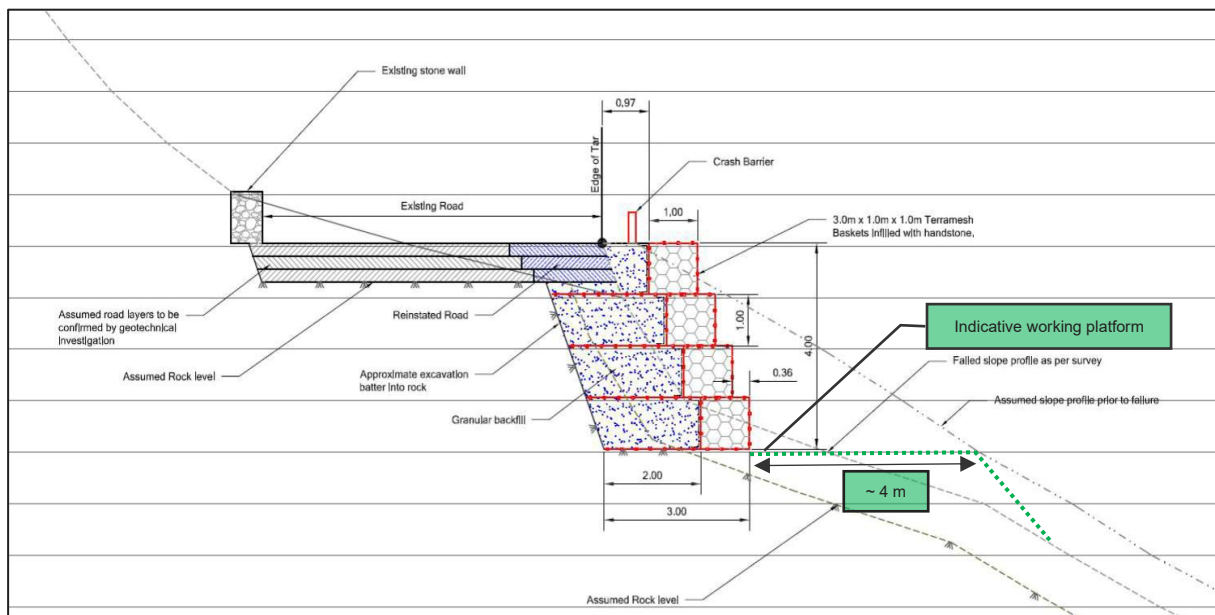

Figure 2-1: Terramesh retaining wall concept (Ingerop, 2024)
A conceptual cross-section of the Terramesh retaining wall option is provided in Figure 2-1.
- **Slope area:** Clear space behind the wall is required for excavation and installation. This area or footprint will be wider if the slope is steeper (an approximate 4 m wide working platform is indicated by the dotted green line in Figure 2-1).